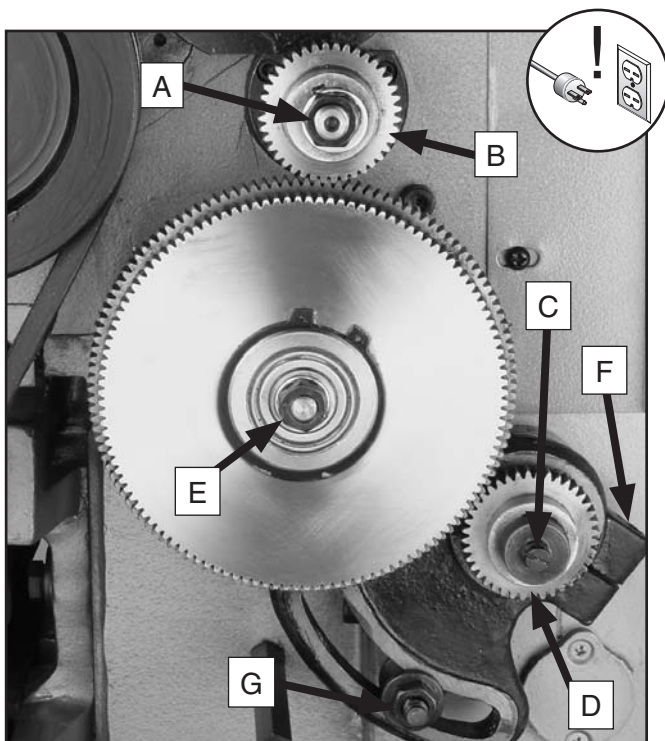

Figure 55. Gear change locations.
3. To set the gears in the 30T/127T X 120T/40T configuration, remove the hex nut and the slot head screw (Items A and C shown in **Figure 55**).
- Loosen the hex nuts, Items G & E, and the cap screw, Item F, shown in **Figure 55** and drop the large gear set out of its mesh.
- Remove the 40T gear, Item B in **Figure 55**, and replace it with the 30T gear.
4. To set the gears in the 40T/127T X 120T/40T configuration, remove the slot head screw shown in **Figure 55**, Item C.
- Loosen hex nuts, Items G & E, and the cap screw, Item F, shown in **Figure 55** and drop the large gear set out of its mesh.